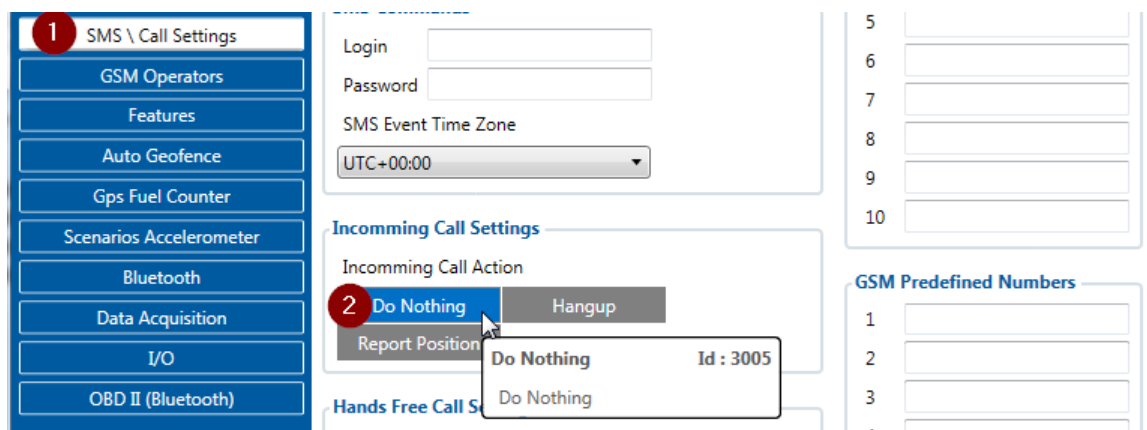

Figure 3. Incomming Call Action settings.
9. Go to “**SMS \ Call Settings**” in left menu and set “**Incomming Call Action**” to “**Do Nothing**” visible at Figure 3.